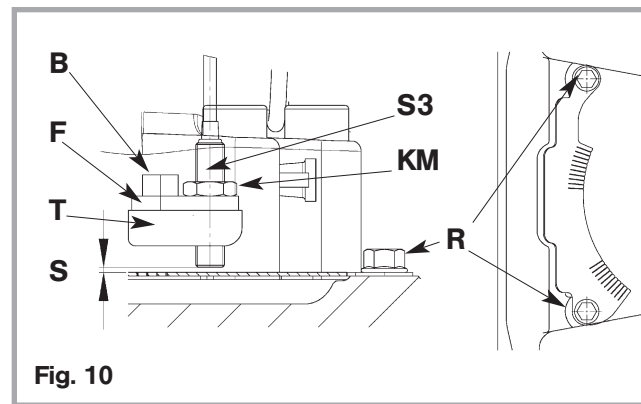

Fig. 10
- Not marked Sensor (**S3**) is pre mounted on holder (**F**) and must normally not be adjusted after mounting (Fig.10).
- Unscrew the fastening screw and draw the sensor (**S3**) out; redraw counter nut **KM**; adjust the Sensor (**S3**) according Fig. 10 to distance (**S**) = 1 to 1,5 mm;